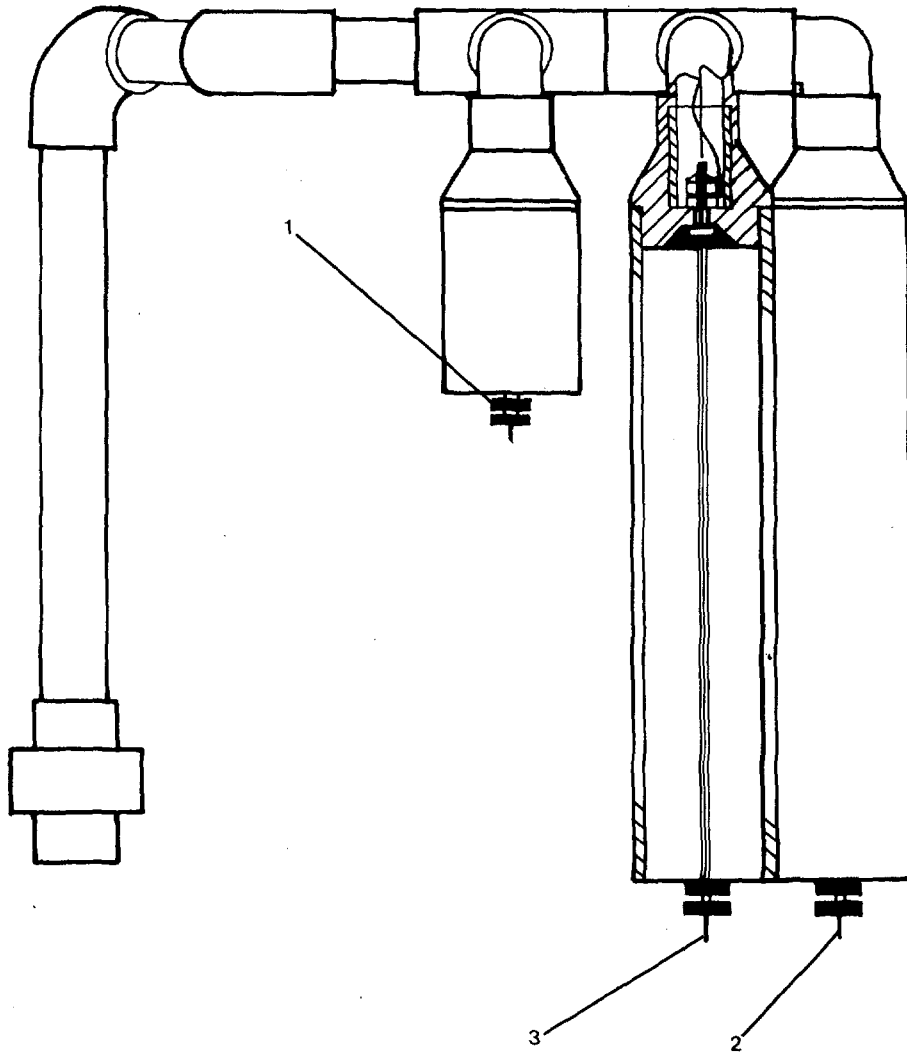

Figure 2-3. Level Sensor Inside Treatment Tank.
- (10) Flush commodes until the water level in the treatment tank starts the unit. This should be about 10 seconds after the water comes in contact with the two longest sensing probes in the tank (2, 3, FIGURE 2-3). If the water level in the tank reaches the short probe (1), the high level warning light will be activated. Do not continue to flush commodes under these conditions.